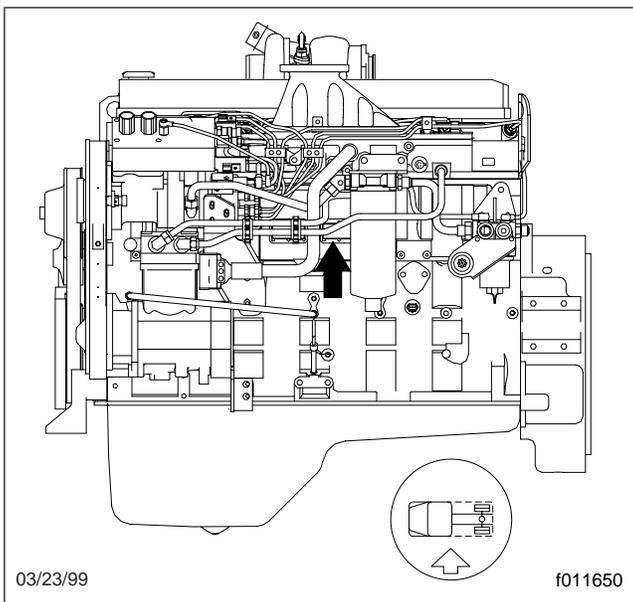

Fig. 4, Cummins ISC/ISL Engine ECU Location
- For Cummins ISC/ISL engines, see Fig. 4.